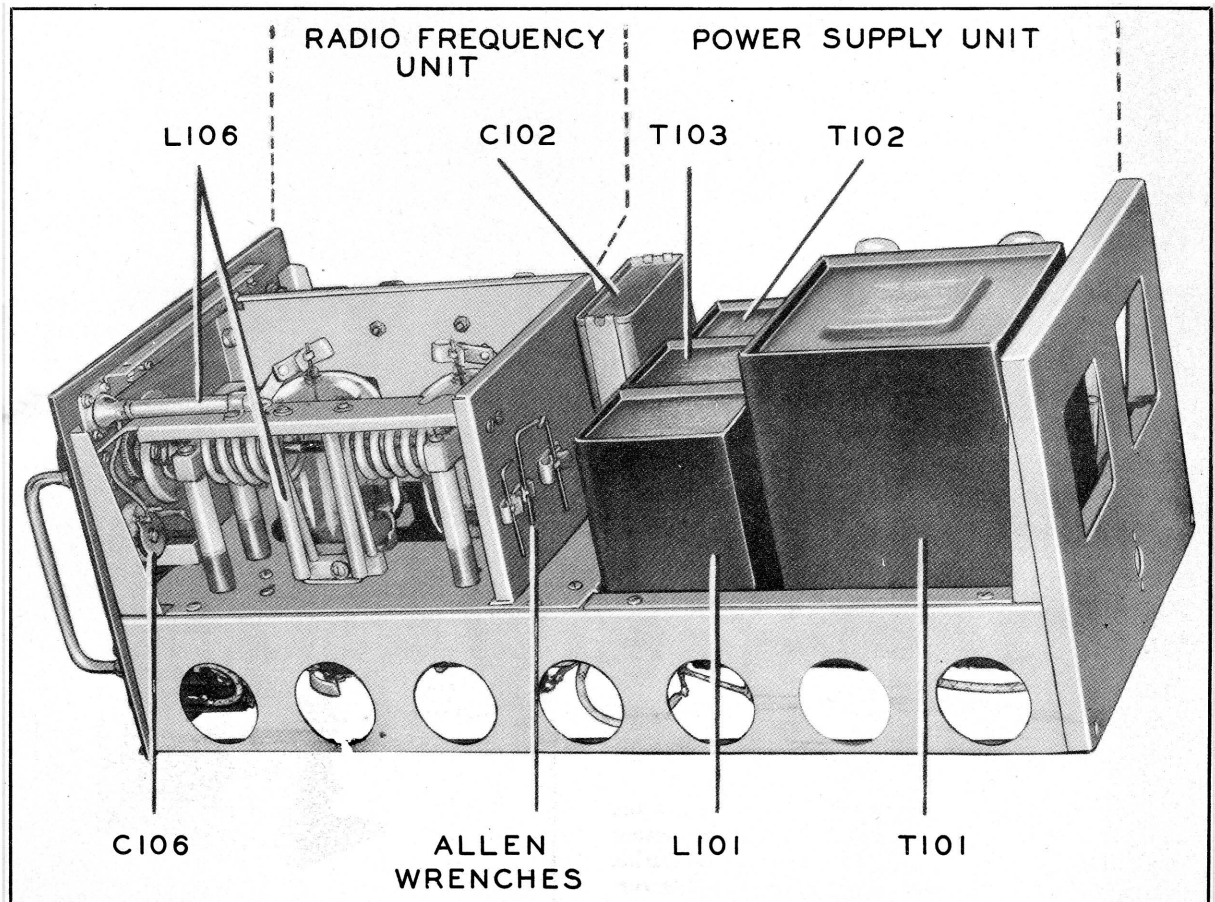

Figure 4-1. Radio Frequency Amplifier AM-14/APT—Power Supply Unit and Radio Frequency Unit
The power supply unit located in rear of chassis of Radio Frequency Amplifier AM-14/APT (see fig. 4-1) consists of the following:
a. The radio frequency unit located in front of chassis is similar to that of the conventional class B radio frequency amplifier except that the positive side of the power supply is at ground potential, and the filament and grid circuits are at 1700 volts negative to ground. (See fig. 4-1.)
There are three Allen wrenches (*see fig. 4-1*), located behind the radio frequency unit of the amplifier, to be used for the following purposes: